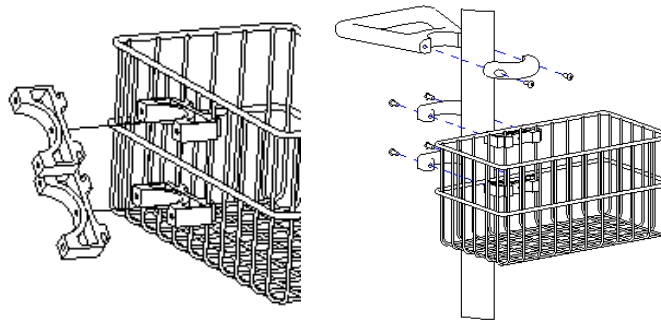

Figure 2
2. Adjust the upper part of the pole to a suitable height, fastening the locking screw. The basket buckle A is installed to the basket according to Figure 2, and then the basket buckle B is fixed on the upper of the pole, with a cross screwdriver use four M4*16 pan head screws to fix the basket buckle A and B; then use two M5*16 pan head screws to fasten the handle on the upper of the pole (Height can be adjusted to a suitable position according to the user needs).